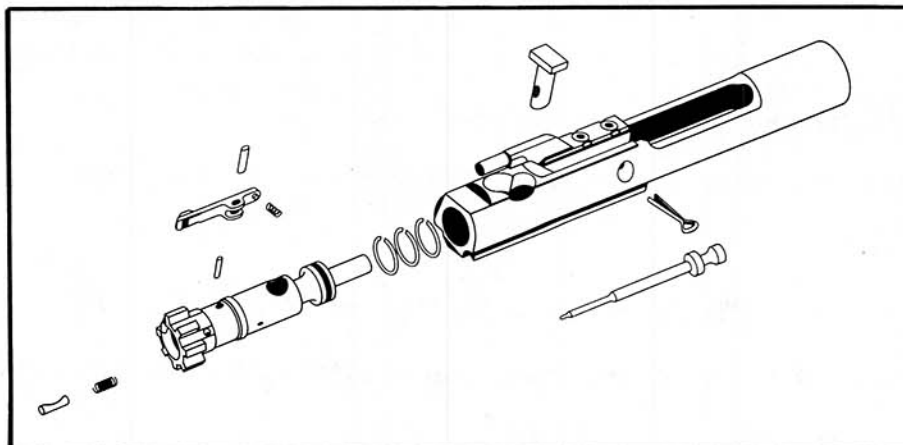
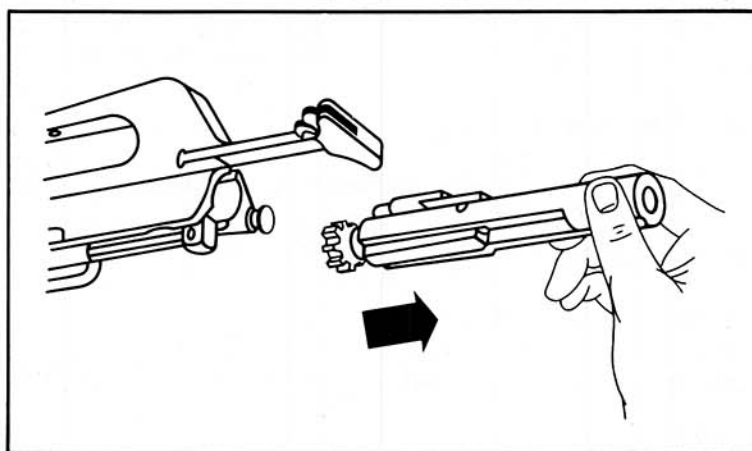

Figure 2-2 Bolt, Bolt Carrier and Firing Pin
Figure 2-3 Remove Bolt Carrier Assembly
- d. Pull the cocking handle partially to the rear and pull the bolt carrier group out of the upper receiver, see Figure 2-2. Push the cocking handle fully forward, see Figure 2-3.